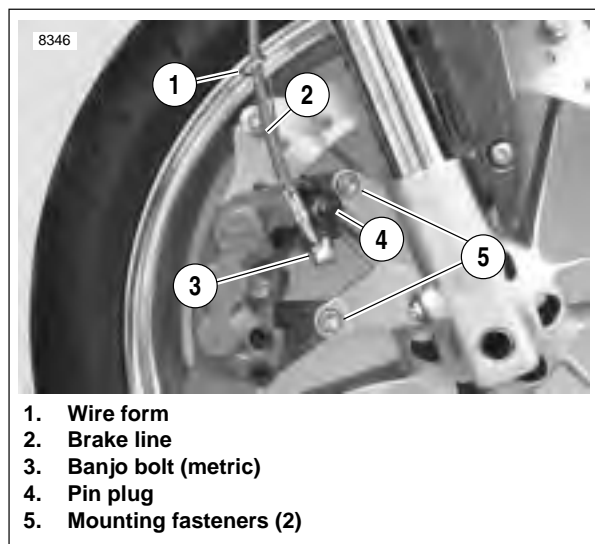

Figure 2-44. Front Brake Caliper Mounts
2. See Figure 2-44. Disconnect brake line at caliper. See 2.11 FRONT BRAKE LINE.
3. Remove caliper mounting fasteners (5).